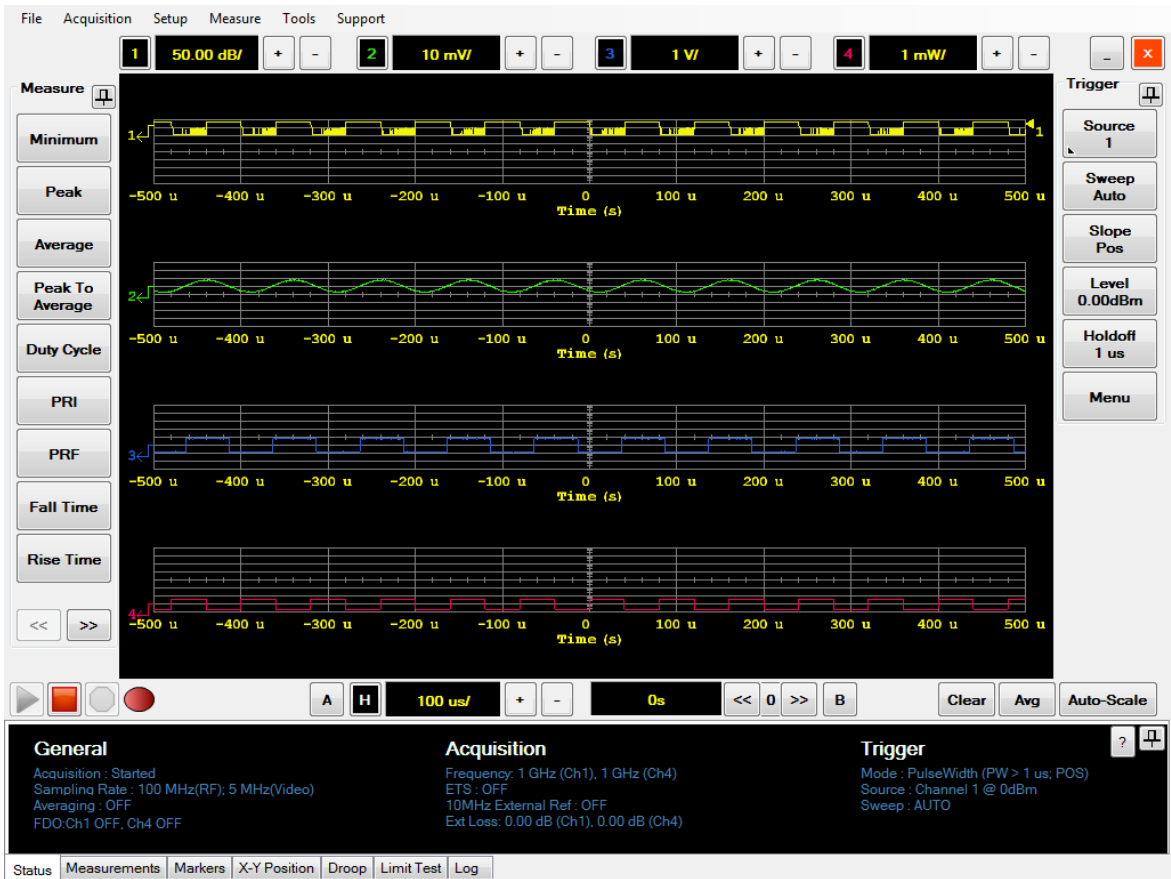

Figure 2-83 Split screens
- 2 An example of the split screen is as shown in Figure 2-83.